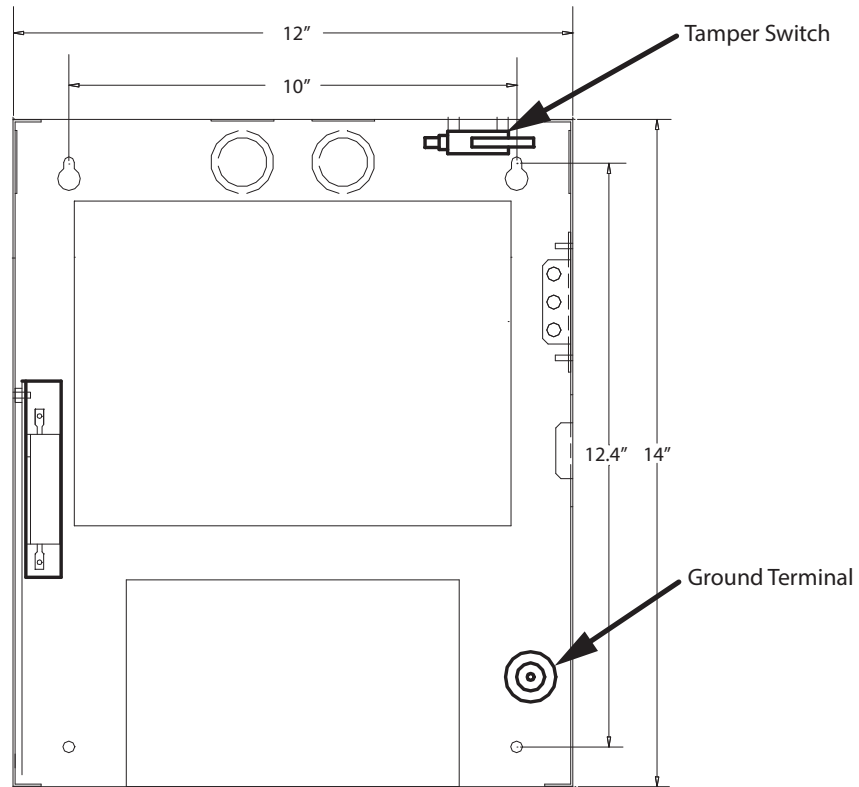

Figure 5. Controller Back Cover Dimensions and Optional Component Location
The Card Access Controller surface mounts with four screws as shown in figure 5. The back cover is 12 inches wide by 14 inches long. The top two mounting holes are 10 inches apart.
The Card Access Controller enclosure mounts directly on the wall to the wall stud using the mounting screws locations as shown in figure 5.
2. Using the controller back cover as a template mark the top two mounting hole locations 10” apart as shown in figure 5.
The tamper switch is located at the top right corner of the back cover shown in figure 5. Connect the tamper switch wire to the general purpose input and correlate the opening of the cover to a specific output (action). For a complete description of correlations see section 2.2 on page 14.